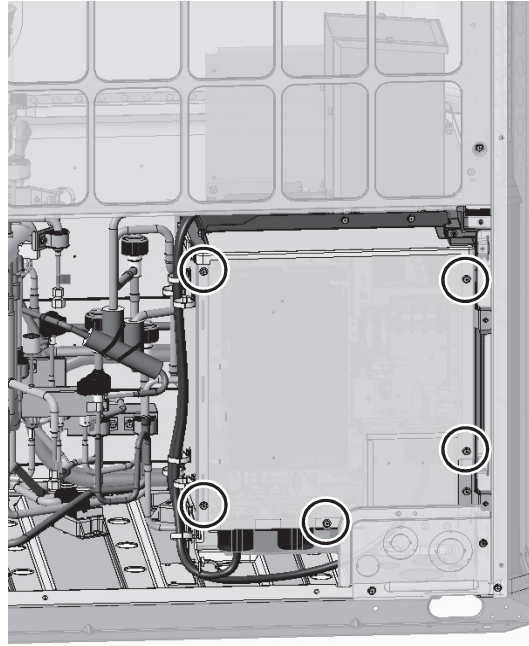

Figure 1
- (1) Ensure there is adequate work space. (See 8-12-1.)
- (2) Remove the control box cover. (5 screws as shown in Fig. 1.)